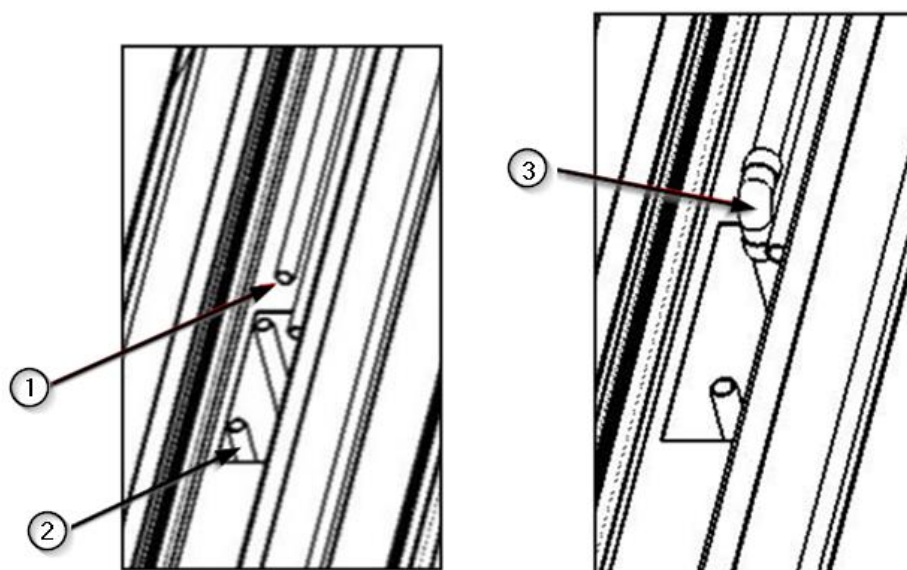

Fig.7 Cutting of pipes and fitting of copper fittings
- Cut off the pipe ① from the equipment piping and the pipe ② corresponding to the gas circuit in question coming from the installation.
- Place the copper fitting (elbow) ③ in position joining the two pipes.
- Solder the 3 components as shown in the picture on the right in figure 7.